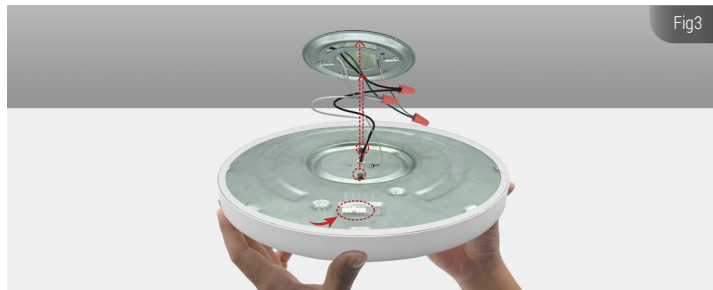

Fig3
3. Connect supply wires to wires on fixture/bracket with wire nuts. Attach white to white, black to black, and copper wire to green wire as grounding connection, select lamp color desired with the CCT switch, see Fig3.